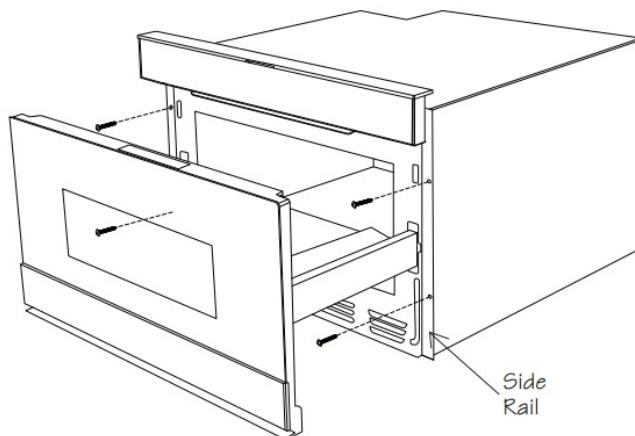

Figure 10
3. Slide the drawer until the mounting flange is flush with the face of the cabinet. See Figure 10.
4. Open the drawer. Using the 4 holes on the drawer as a template, pre-drill the cabinet using a 1/16" bit. See Figure 10.